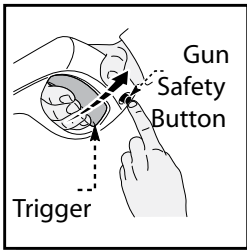

Fig. 7
- To lock the trigger of the spray gun aim the gun away from you and push the lock button from right to left, (Fig. 7), after doing so, squeeze or pull the trigger to make sure it is locked and will not move. Get in the habit of leaving the lock button in the “locked” position when the power washer is not in use. This ensures the gun is in “safe” mode until it is ready for use.